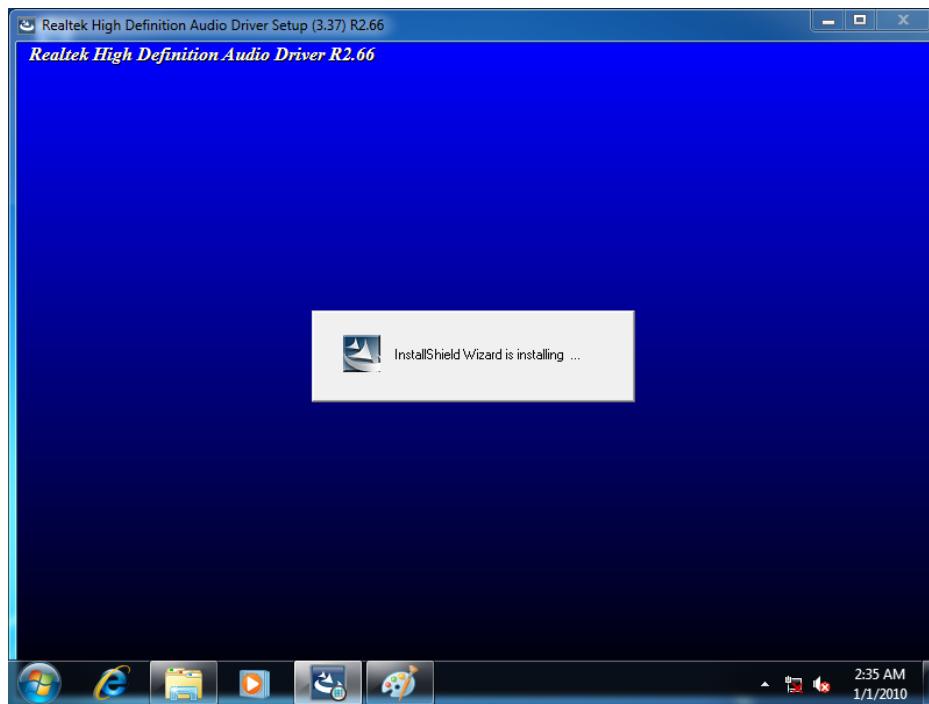

Figure 6-26: Audio Driver Installation
- Step 7:** The program begins to install. See **Figure 6-26**.